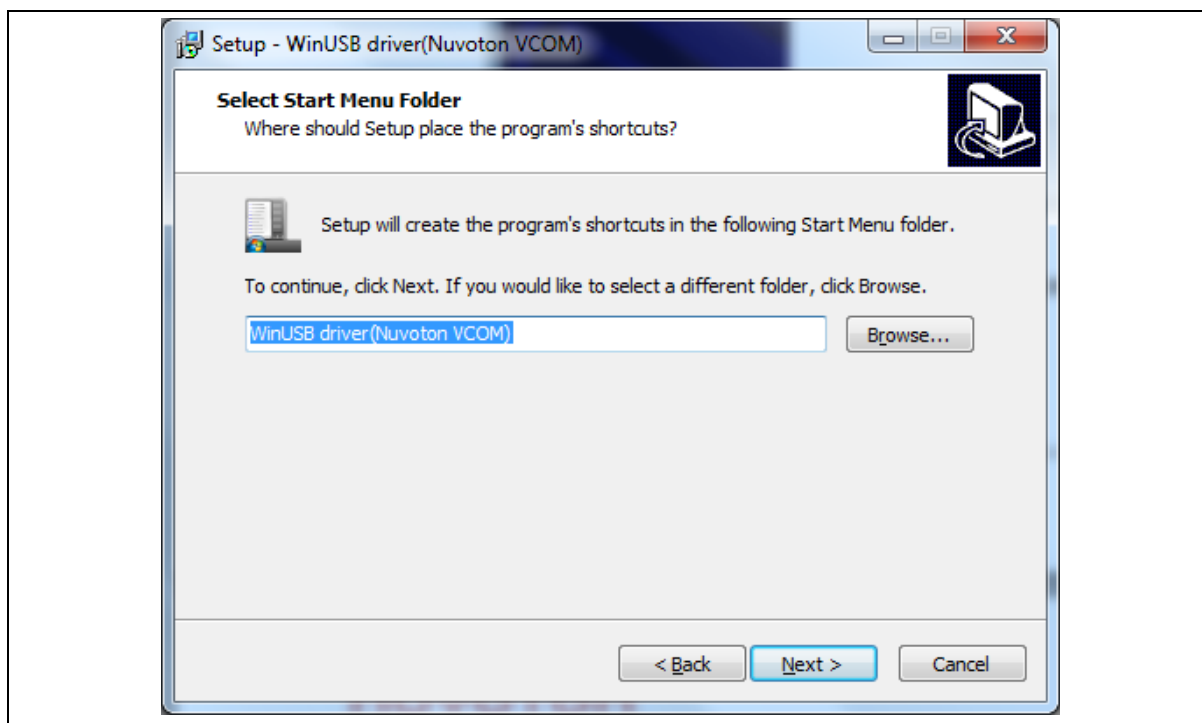

Figure 2-3 WinUSB4NuVCOM Driver Setup (3)
Step 3: Select the path the user wants to install or use the default path and click “**Next**” after confirming (Figure 2-3).